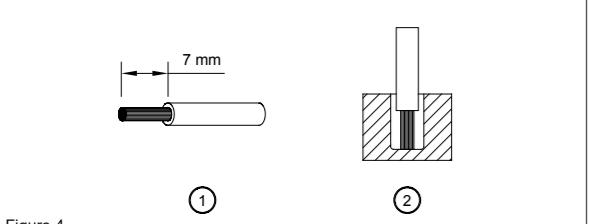

Figure 4
(1)	0.82-5.3	18-10	4.57	3.96
(2)	1.3-5.3	16-10	4.57	3.96
To secure reliable and shock proof connections, the stripping length should be 7 mm (see Fig. 4 (1)). Please ensure that wires are fully inserted into the connecting terminals as shown in Fig. 4 (2).